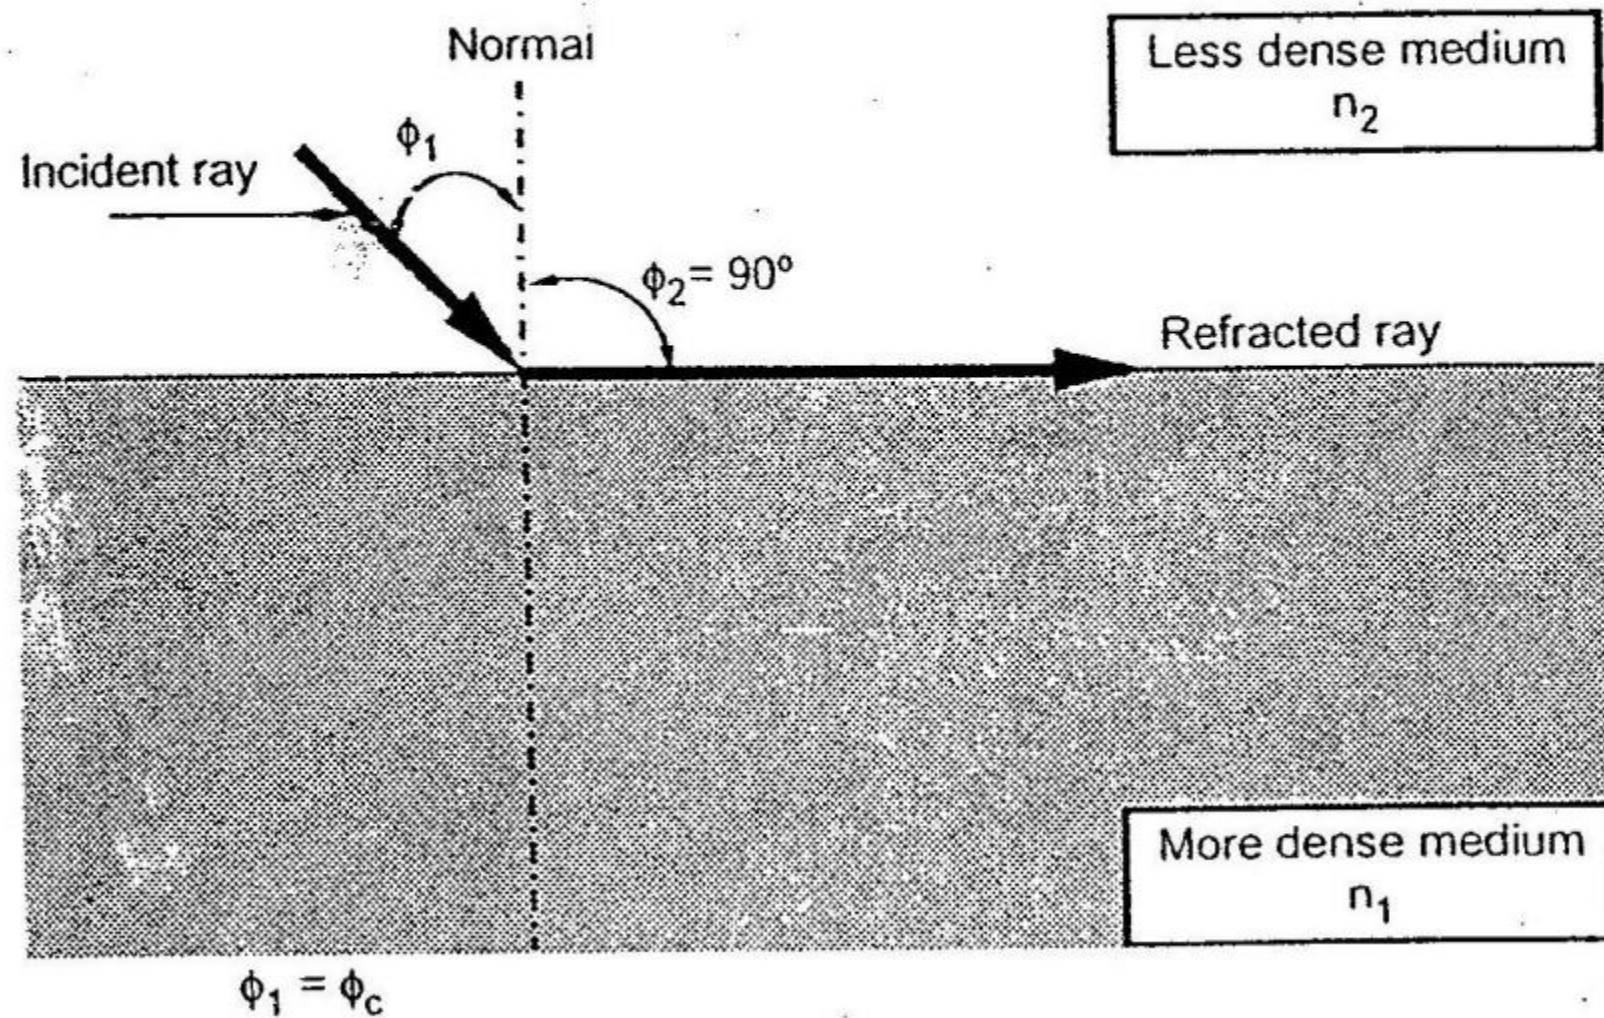

Fig. 2.2.4 Critical angle
- The critical angle is defined as the minimum angle of incidence (ϕ_1) at which the ray strikes the interface of two media and causes an angle of refraction (ϕ_2) equal to 90° . Fig. 2.2.4 shows critical angle refraction.